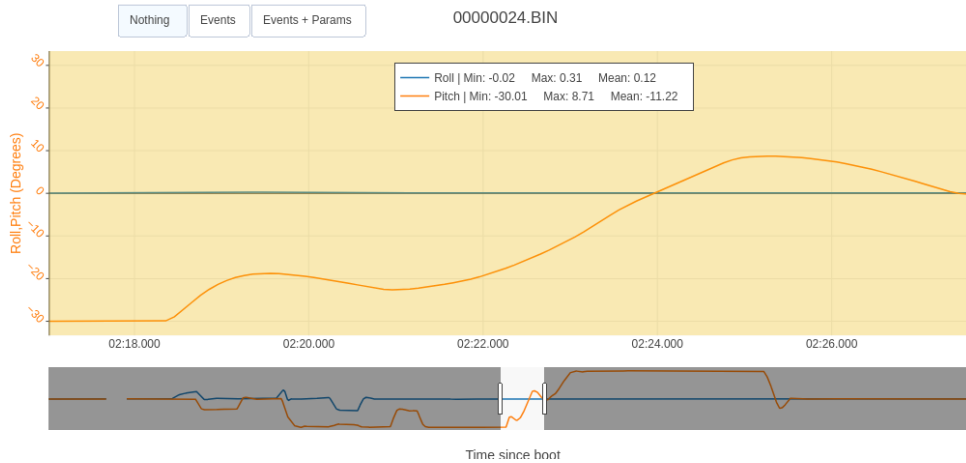

Figure 8: Waypoint 6 to Waypoint 7 (Pitch, Roll vs Time)
- It can be observed from fig. 8 that the mean roll angle is approx. 0° and mean pitch angle is about -11.22° (pitching down). During this part of the mission there is zero wind and vehicle reaches a state of hover at the end.
For calculation of power during each mission segment the graphs (fig. 8 - fig. 12) for battery currents were plotted and peak current during each mission segment was used to calculate power consumption. The table below summarizes the power consumption of the vehicle. The battery by default in Ardupilot is 3s (4.2*3 = 12.6V) is used for power calculation.